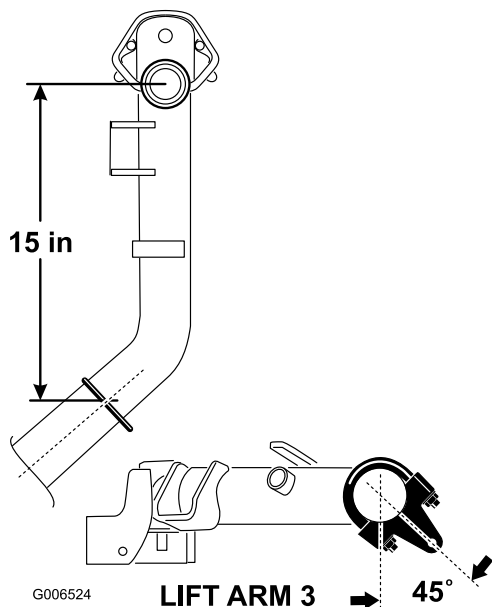

Figure 5
- On lift arms #2 and #3, position the brackets and U-bolts 15 inches behind the center line of the pivot knuckle (Figure 5). Rotate the brackets 45 degrees to the outboard side of the machine.